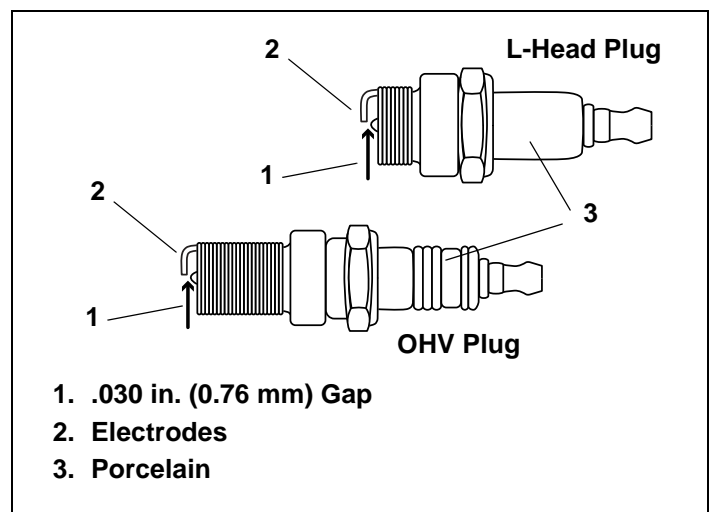

Figure 51. Resistor Spark Plugs
4. Check electrode gap with wire feeler gauge and set gap to—.030 in. (0.76 mm) if necessary. See Figure 51.